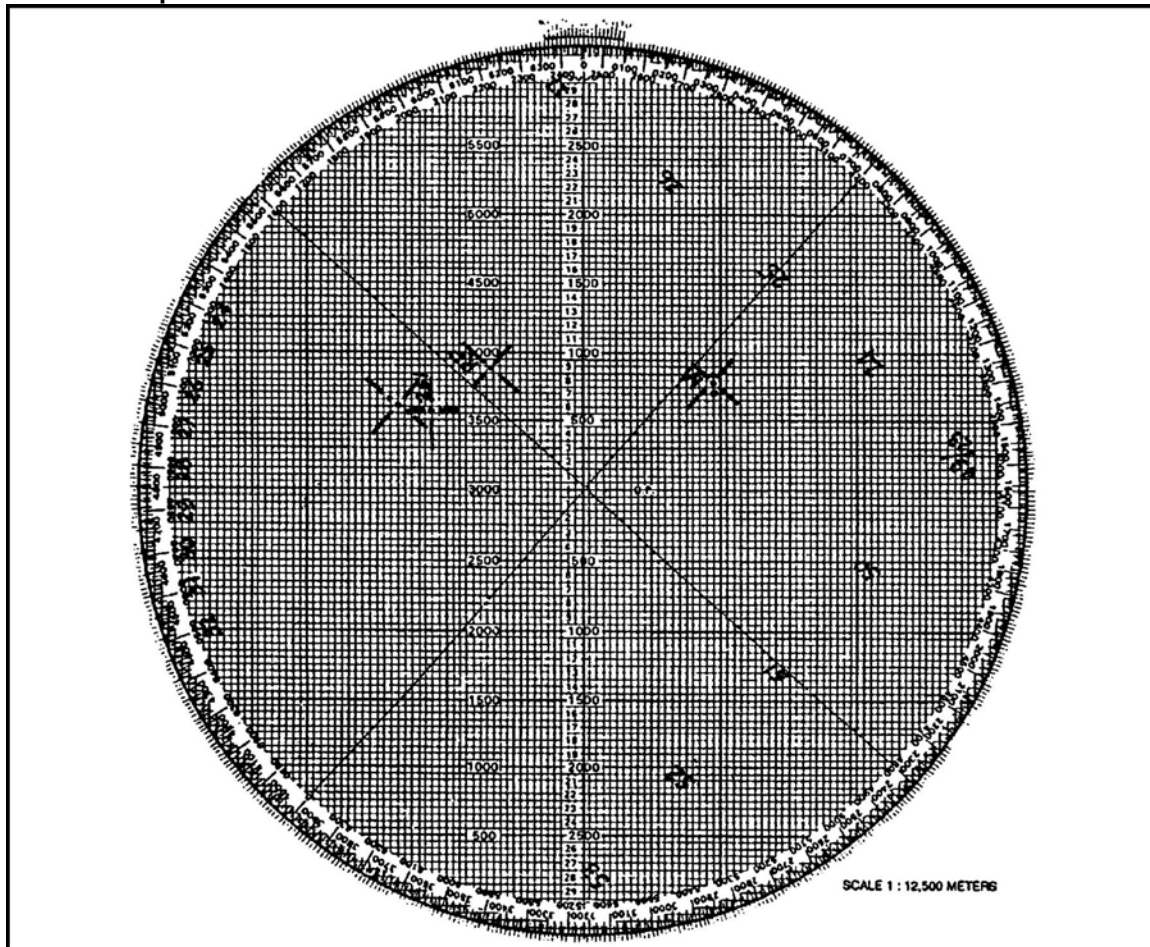

Figure 5. Points of Impact
- (c) Again, by rotating the disk and aligning these impact plots with the gun section plots, it can be determined which mortar will be firing at which plot (Figure 5).